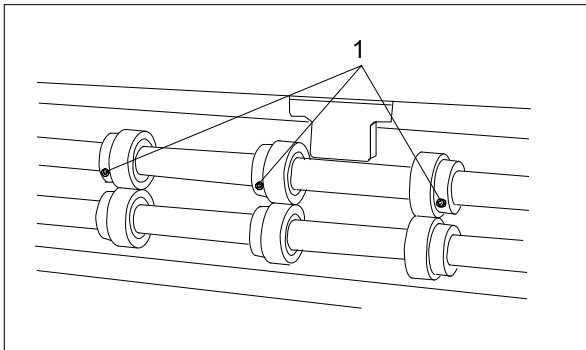

Fig. 67 Transport rollers
1. Turn the handwheel until the Allen screws (Fig. 67/1) on the transport rollers become visible.